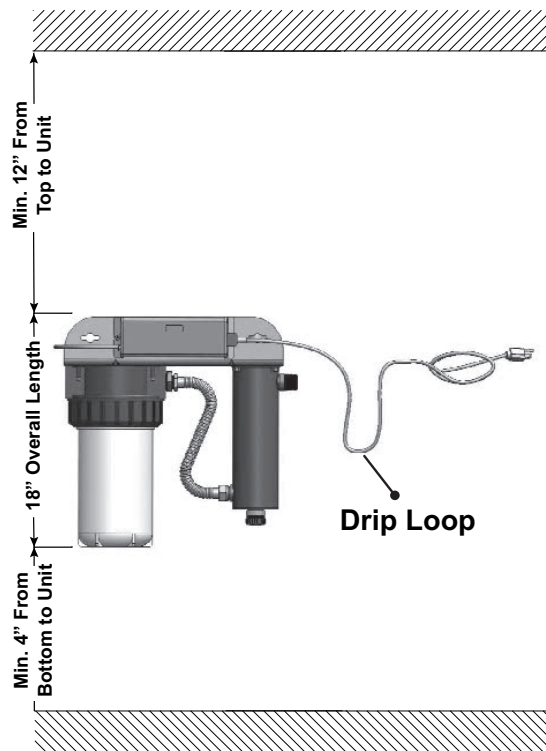

Figure 3 Installation
The UV system is designed to be installed at point-of-entry. Drip loops in all cordage connected to the controller is highly recommended. Refer to Figure 3.
2. Select a suitable location for the UV system and its related components. As it is recommended to install a ground fault protected circuit (GFCI), make sure that this is taken into consideration prior to any installation. When selecting a mounting location, enough space must be left to allow for the removal of the UV lamp sleeve, as well as enough space to change out the filter cartridges. See Figure 3 for typical clearance dimensions.
4. Make sure you allow for a “drip-loop” on the power cord to prevent any water from potentially entering the controller. Refer to Figure 3.